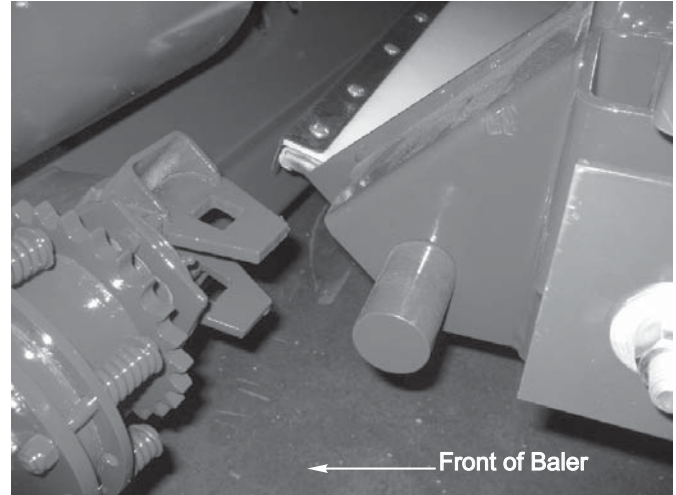
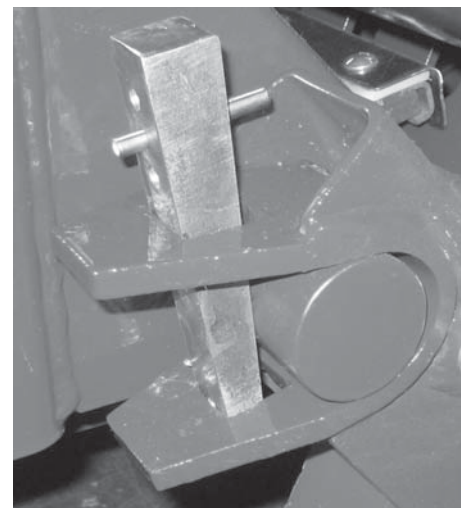

Figure 4 - Aligning Pickup with Baler
Figure 5 - Securing Pickup
2. Raise tongue of baler just high enough to move the pickup underneath. Line up pickup locking claw to baler pickup pins as shown in Figure 4. Push pickup so the locking claw has surrounded the pin. Place pickup pin through the pickup claw to lock the pickup into place. This needs to be done to each side of the baler. You may have to lower or raise the tongue so the wedge drops freely into place securing the pickup to the baler. Insert roll pin in bottom of pickup pivot wedge so the wedge is secure.
the tractor u-joint, 'A' Figure 4, and the angle of the center u-joint, 'B' Fig. 4, are equal. To achieve equal angles at 'A' and 'B', adjust the vertical position of the carrier bearing support bracket. If after repositioning the support bracket, the angles are not equal, select the bracket position that allows the closest angle setting. The objective is to achieve, as closely as possible, equal angles as described above while keeping the angle of the u-joint at the slip clutch to a minimum.
8. If equal angles are achieved at 'A' and 'B', (Fig. 4), either driveline phasing, (alignment of u-joint yokes), illustrated in Fig. 5 is acceptable. If the angles cannot be made equal, then reposition the driveline yokes as shown. If the angle at 'B' is greater than at 'A', phase the driveline yokes as shown in Fig. 5, (E). If angle at 'A' is greater than the angle at 'B', phase the yokes as shown in Fig. 5, (D).